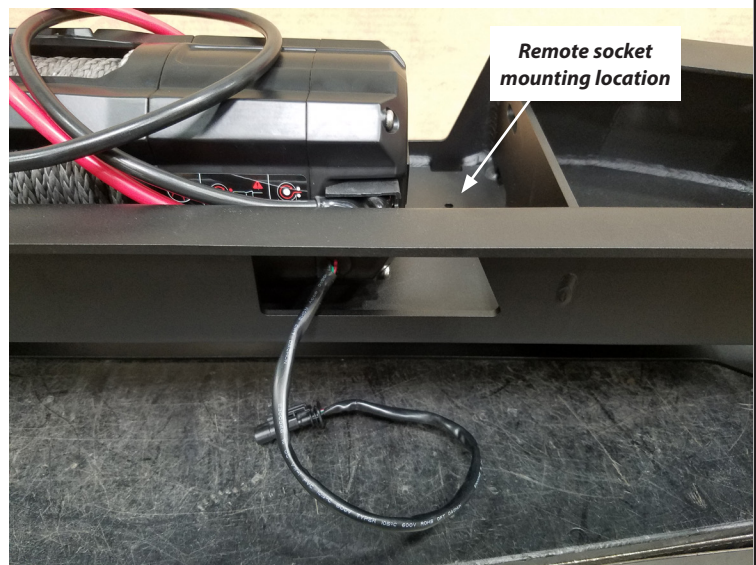

Figure 6
9. Route the winch switch harness connector out the cut out in the rear of the weldment and move the red and black cables up and out of the way, as shown. Figure 6.